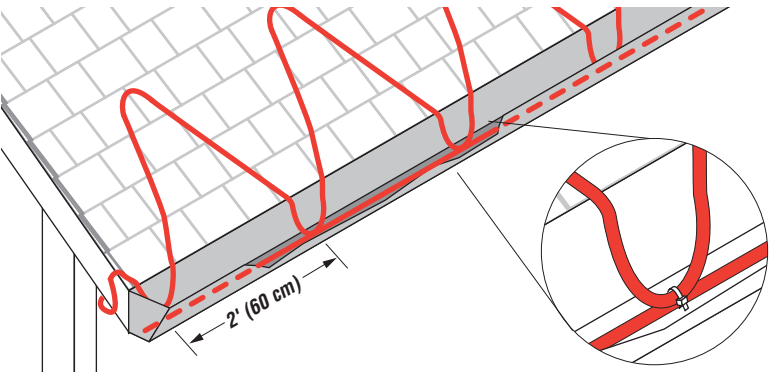

Fig. 7 Layout in a zig-zag pattern
For sloped roofs, ice dams may form at the roof edge. To maintain a continuous path for melt water runoff, route the heating cable in a zig-zag pattern as shown in Figure 7 and follow the appropriate attachment recommendations in “Step 6 Select attachment accessories and method,” page 21. Additional heating cable may be needed for other gutters, downspouts, and valleys.
- Install the heating cable on the roof in a zig-zag pattern as shown in Figure 7.
**Note:** Attachment methods are not shown in Figure 7. For attachment methods, proceed to “Step 6 Select attachment accessories and method,” page 21.